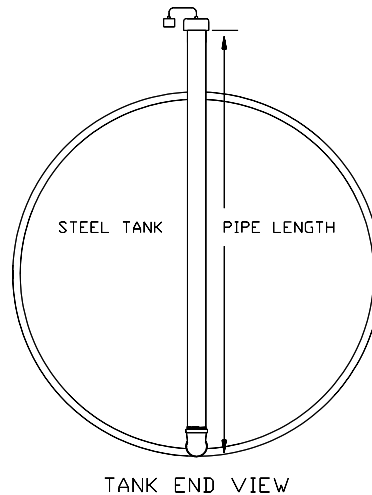

Figure 10: Typical Basic Interstitial Installation in a STEEL Tank
- *See Figure 10. Measure length of the annular space monitoring pipe from top to bottom and subtract 1/2" (1.3cm) for a total measurement to be used for the sensor placement.*